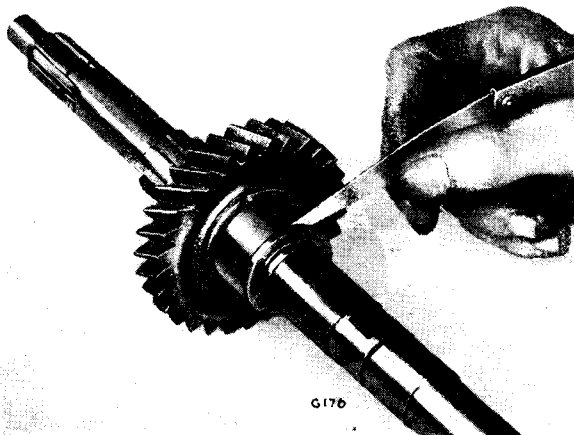

Fig. 43. Determining thickness of circlip washer
Assemble the split collars (17), first speed gear (15), thrust washer (14), bearing inner race (or distance tube), distance washer (11) and discarded half circlip (10) to the mainshaft. Measure the gap as shown in Fig. 43, and adjust to give 0.000"/0.002" (0.00/0.050 mm.) by selective use of washers (11).